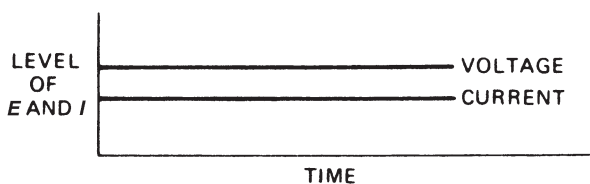

FIGURE 8-15 Representation of DC voltage and current.
When a **direct current (DC)** voltage is applied to a resistor, a level of current is established, and it flows in the circuit. In a DC circuit, the effects are constant (Figure 8-15).